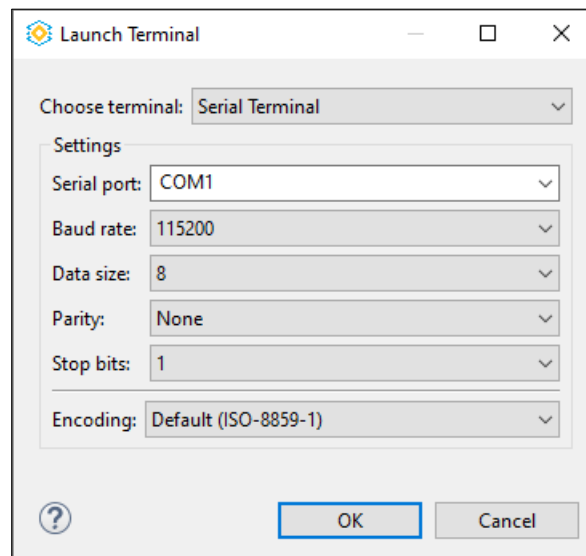

Figure 4.12. Launch Terminal Dialog 2
3. Choose the **Serial Terminal** and configure the **Serial port** with **Baud rate 115200** (Figure 4.12).